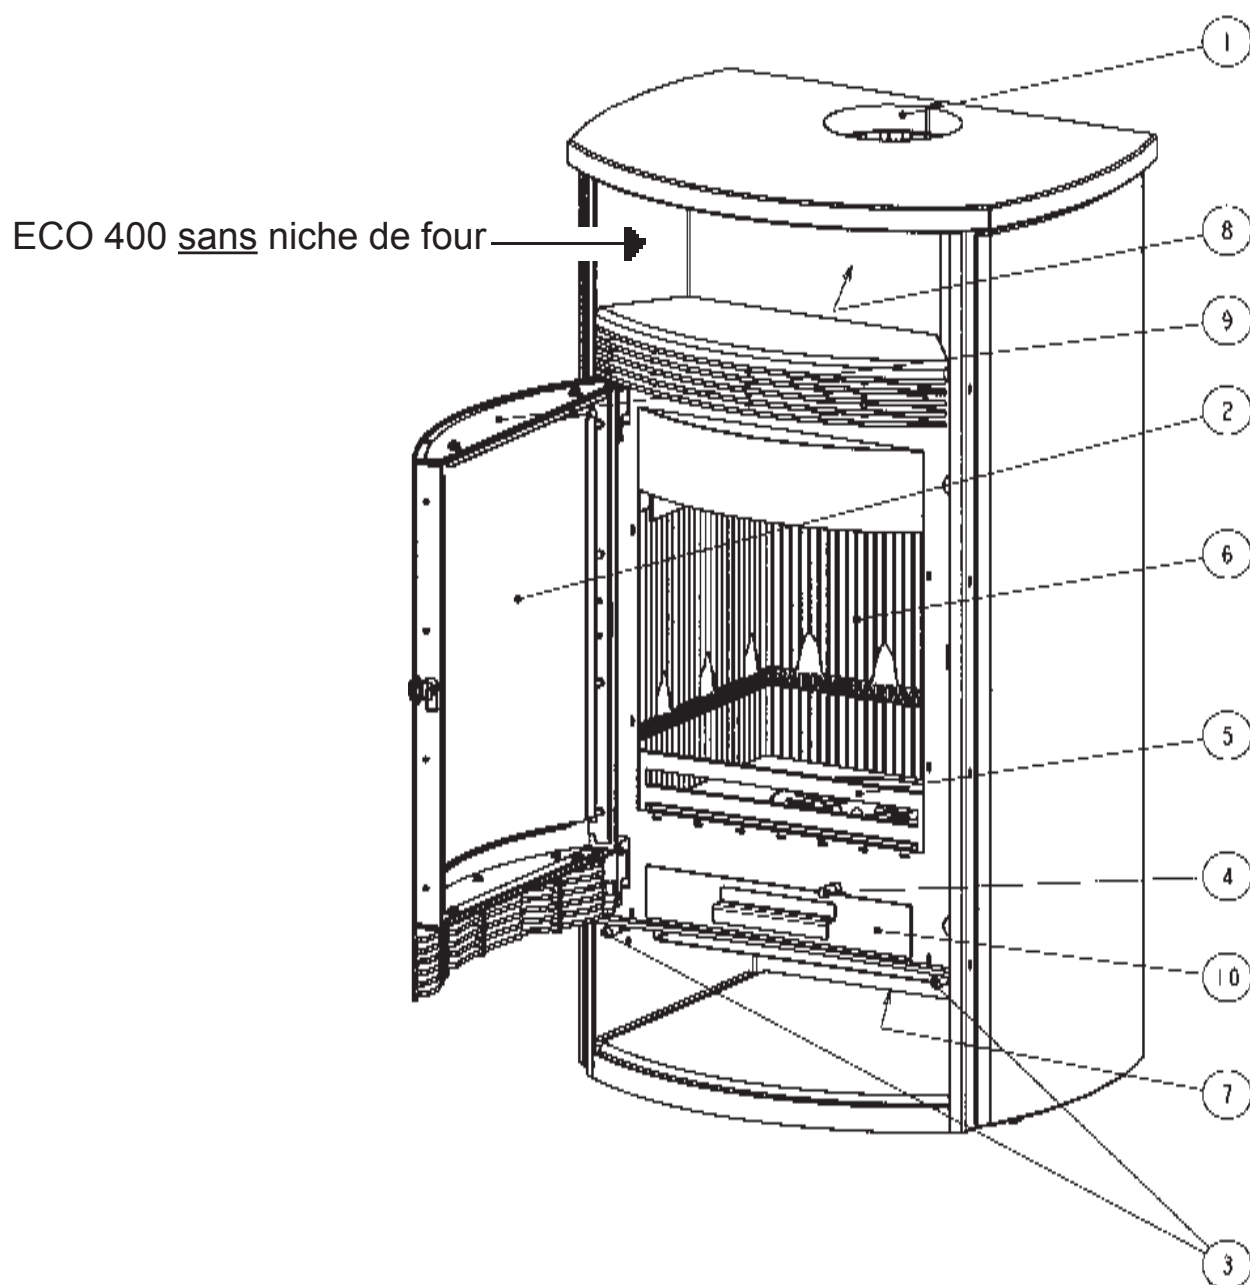

Figure 2: Commande
6.2. AMORÇAGE DU FEU (Figure 2)